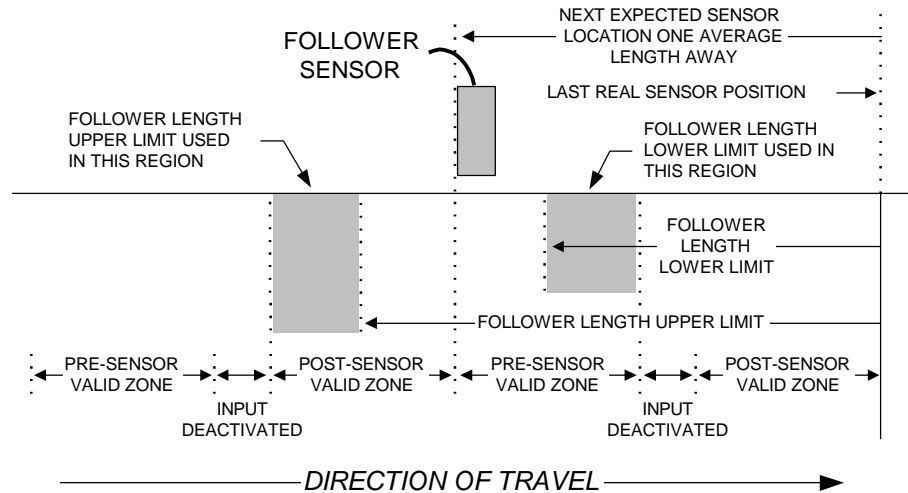

Figure 24 Follower Length Upper Limit, Follower Length Lower Limit and Follower Sensor Valid Zone Operation
3. When the Follower cycle is Defined By a Registration Sensor, if the distance traveled since the last *Zero Follower Cycle* sensor input exceeds the *Follower Length Upper Limit*, the length is considered invalid and is replaced by the *Follower Length Upper Limit* value which will be averaged. The *Cycle Limit Reached* (output function 41) is activated until a valid sensor input is received. See Figure 24, *Follower Length Lower Limit*, *Follower Sensor Valid Zone* and the *CQ* serial command.
3. When the Follower cycle is Defined By a Registration Sensor, if the distance traveled since the last *Zero Follower Cycle* sensor input is less than the *Follower Length Lower Limit*, the length is considered invalid and is replaced by the *Follower Length Lower Limit* value which will be averaged. The *Cycle Limit Reached* (output function 41) is activated until a valid sensor input is received. See Figure 24, *Follower Length Upper Limit*, *Follower Sensor Valid Zone* and the *CQ* serial command.
If a *Zero Follower Cycle* input occurs early within the *Follower Sensor Valid Zone*, and the distance traveled since the last sensor is less than 50 percent of the *Average Follower Length*, the sensor input is considered invalid and is ignored. See Figure 24, *Average Length* and the *CQ* serial command.
This is useful in applications where the follower sensor may detect something other than the target on the Follower axis such as another portion of the machine. The amplifier will ignore all inputs except those which appear within the *Follower Sensor Valid Zone*. See Figure 24 and the *CQ* serial command.